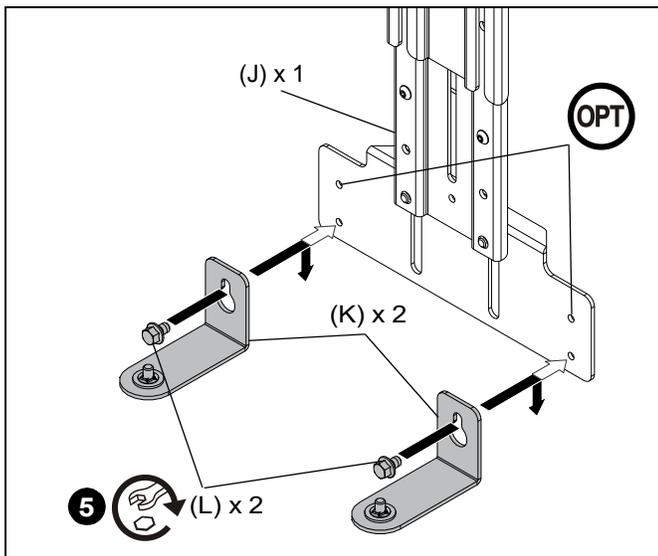

Figure 10
5. Install two interface assemblies (K) to the bottom of lower adjustment assembly (J) using two 1/4-20 x 3/8" hex head screws (L). (See Figure 10)